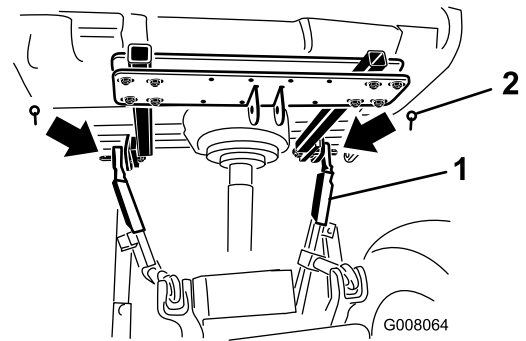

Figure 7
5. Insert the right and left lower link arms onto the link pins and secure with lynch pins (Figure 7).